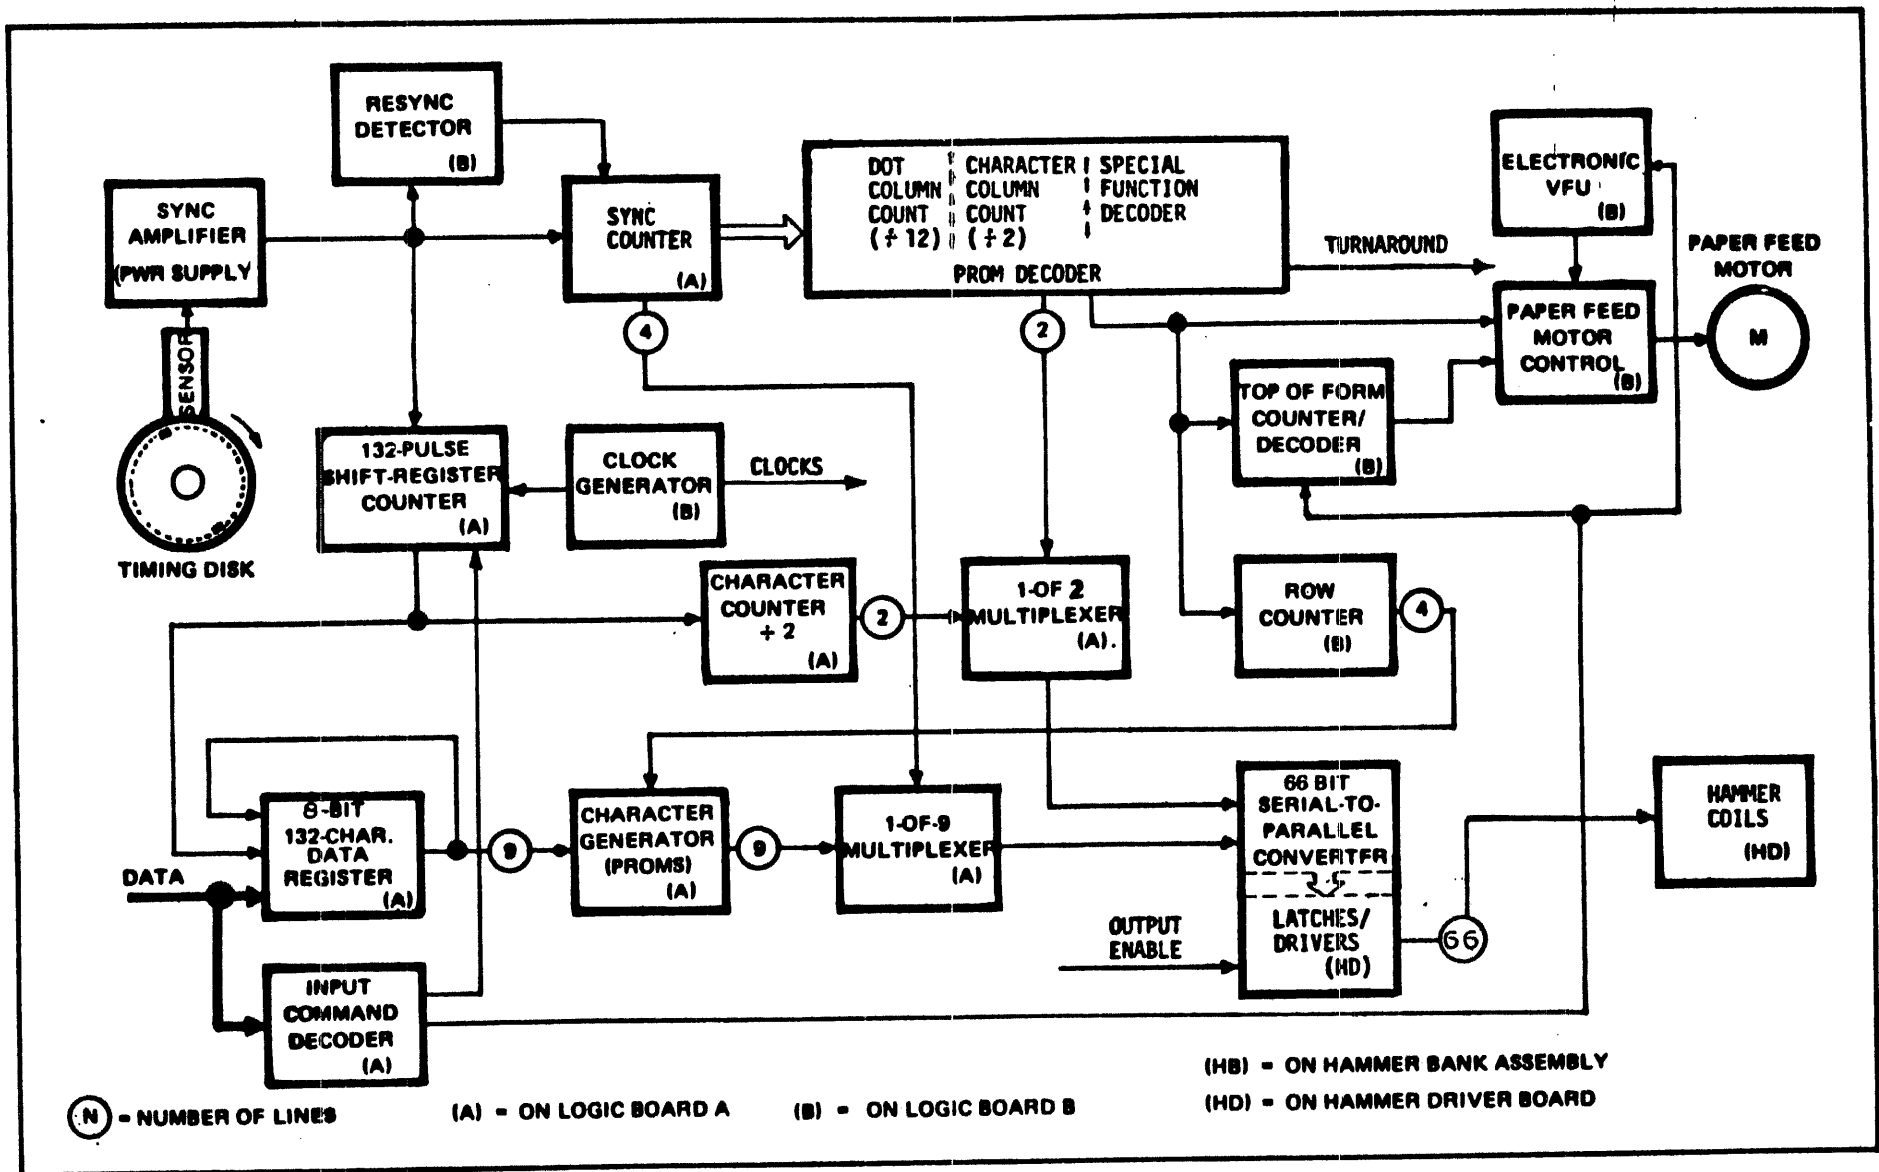

Figure 2 Printronix P600 Functional Block Diagram
Figure 2 diagrams the printer functional blocks and their relationship with other logic and mechanisms. Each block lists its function and the PCBA which contains it. The following pages describe the operation of printer logic and circuits. Refer to illustrations accompanying the text and to these logic, schematic, and assembly drawings contained in the Printronix Model P600 Drawing Manual (P/N 105485).
- c. Letters in the block diagram (**Figure 2**) indicate that the logic elements are located on the Logic A PCBA (A), the Logic B PCBA (B), or the Hammer Driver PCBA (HD).